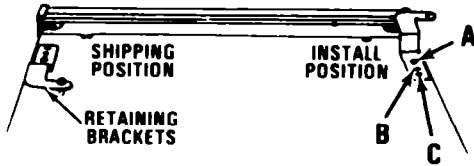

FIGURE 10
- Loosen the screws in the top retaining brackets. Rotate the brackets from shipping position to the install position. Retighten. See Figure 10.